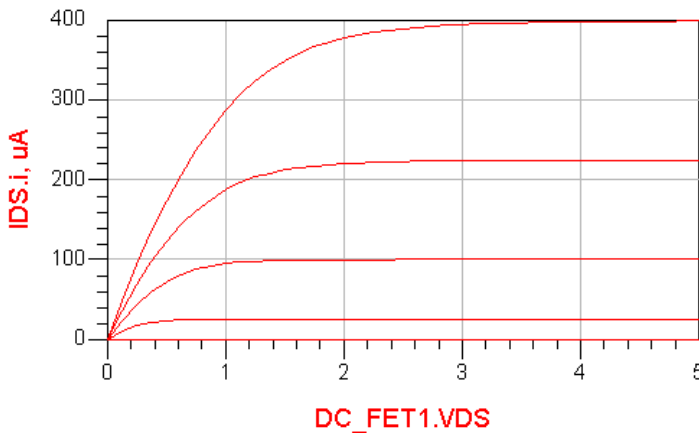
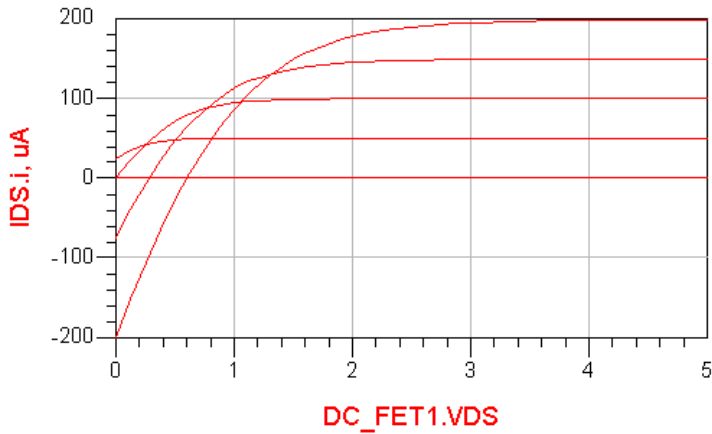

Figure 1-3. PSFET DCIV Results
Figure 1-4. PSFETV_DCIV Results using Power Law Relation of $q/2$
7. After the simulation is complete, open the Data Display *TestBench.dds* window if necessary. The display consists of a rectangular plot with a trace of the *IDS.i* data. Your results should look similar to Figure 1-3.
The Data Display window now shows very different results (see Figure 1-4) compared to Figure 1-3, demonstrating that the modification to the equation did indeed take effect.